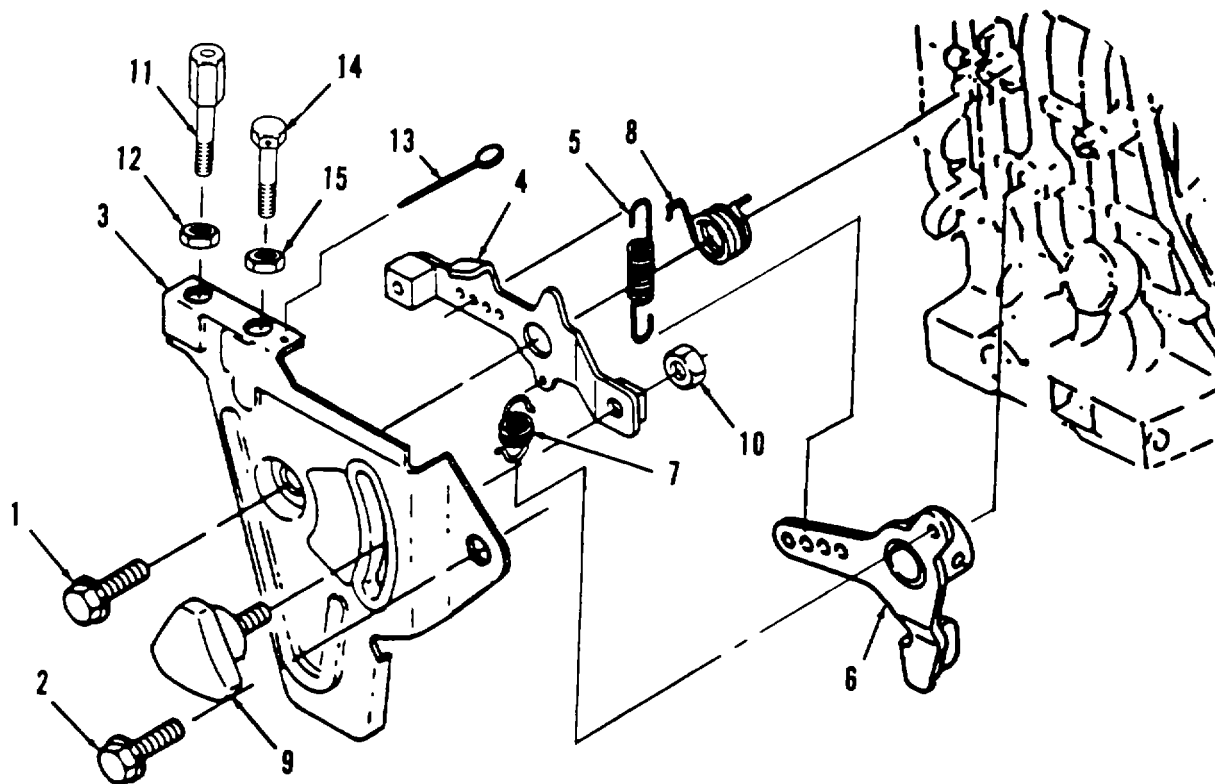

Figure 5-3. Regulator Bracket Assembly Repair and Replacement.
a. Removal. (Refer to Figure 5-3).
- (1) Remove mounting bolts (1 and 2).
- (2) Remove regulator bracket (3) with regulator lever (4) and springs attached.
- (3) Remove regulator spring (5) from the governor lever (6) and regulator lever (4).
- (4) Remove return spring (7) from the governor lever (6) and regulator lever (4).
- (5) Remove regulator coil spring (8).
- (6) Remove regulator lever (4) from regulator bracket (3) by unscrewing lever locking knob (9) and locknut (10).
- (7) Remove adjusting bolt (11) and nut (12).
- (8) Remove wire (13), bolt (14), and nut (15).